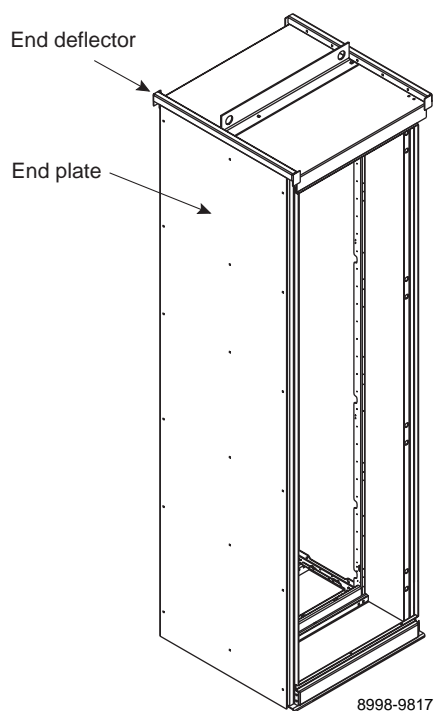

Figure 1: Remove the end deflector
1. Remove the end deflector (see Figure 1) from the leftmost section of the existing MCC and the end deflector, if supplied, from the rightmost section of the MCC being added. Discard both end deflectors. Retain the hardware for installation of new parts.
3. Remove the end plate (see Figure 1) from the leftmost section of the existing MCC and the end plate, if supplied, from the rightmost section of the MCC being added. Discard both end plates. Retain the hardware for installation of new parts.
1. Remove the end deflector (see Figure 1 on page 1) from the rightmost section of the existing MCC and the end deflector, if supplied, from the leftmost section of the MCC being added. Retain hardware for use in Step 12. Discard both end deflectors.
3. Remove the end plate (see Figure 1) from the rightmost section of the existing MCC and the end plate, if supplied, from the leftmost section of the MCC being added. Discard both end plates.